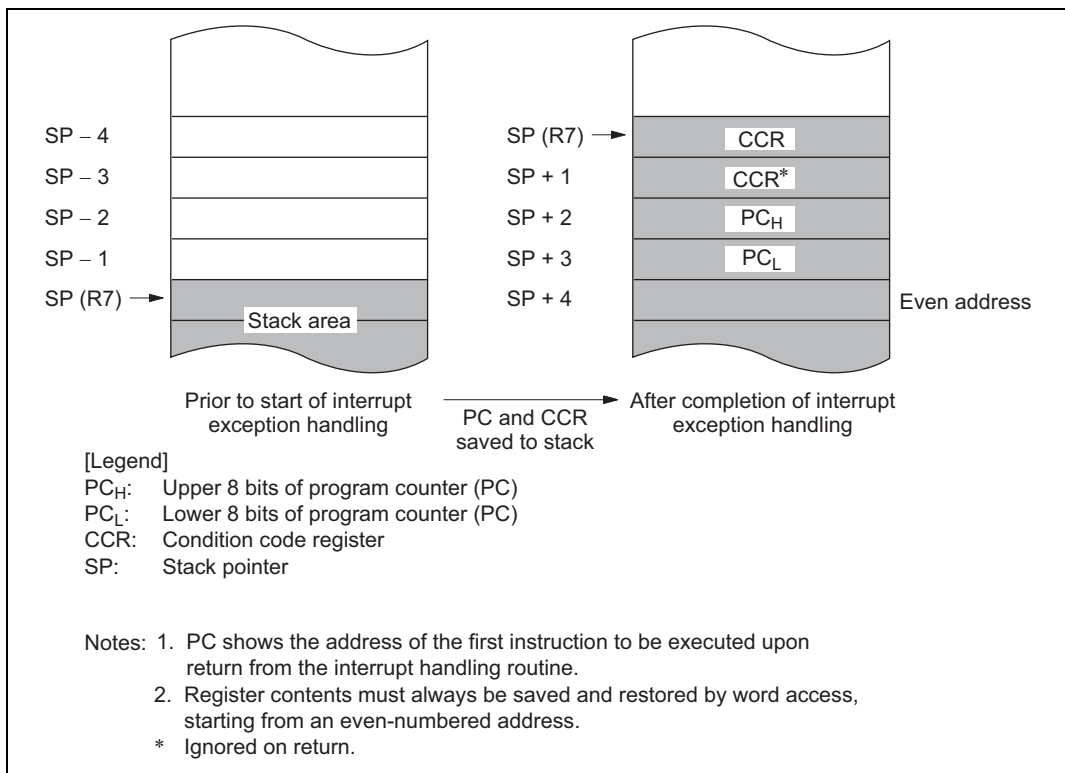

Figure 3.4 Stack State after Completion of Interrupt Exception Handling
- If the interrupt request is accepted, after processing of the current instruction is completed, both PC and CCR are pushed onto the stack. The state of the stack at this time is shown in figure 3.4. The PC value pushed onto the stack is the address of the first instruction to be executed upon return from interrupt handling.